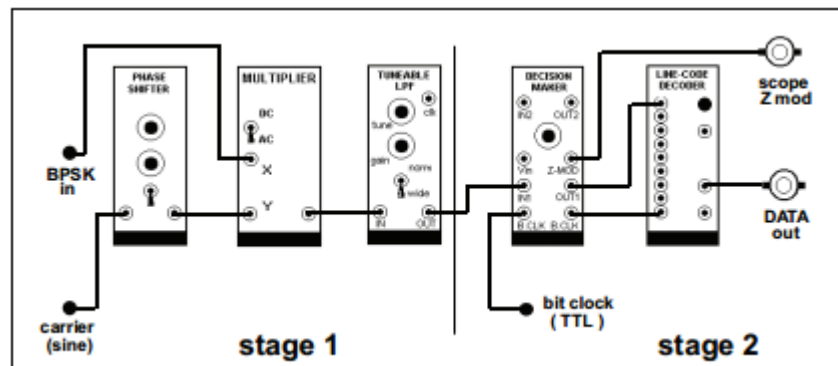

Figure 2
b) **Circuit Assembly:** Make sure that both on-board switches on the SEQUENCE GENERATOR Module are at the Up position. This will generate a 32-bit random sequence which will keep repeating. A new sequence would be generated each time you press RESET. Sequence Generator generates two different sequences marked as X and Y. Connect the SEQUENCE GENERATOR's TTL X output (digital output marked in red on the module), as shown in Figure 2, to the LINE CODE ENCODER's Data In. View the resulting BPSK waveform by connecting NRZ-L output of the Encoder to the oscilloscope. Don't forget to connect the SYNC signal from the Sequence Generator to the oscilloscope's external trigger *. Since this is a repeating sequence, the SYNC will send a pulse at the beginning of every 32-bit sequence to the oscilloscope in order for us to have a steady oscilloscope display. This is your baseband signal. You may not be able to view all 32 bits on the Oscilloscope, but you should be able to view the first 16 bits. Include a screen shot in your report and indicate what the first 16-bits of your sequence are (0s and 1s)?
d) To demodulate the BPSK waveform, we will use synchronous demodulation. Connect the modulated BPSK signal and sinusoidal carrier from the AUDIO OSCILLATOR to the MULTIPLIER inputs as shown in Figure 2. Again, you can skip the phase shifter module connection as it is optional. The output of multiplier then needs to be connected to the TUNEABLE LPF module to get the baseband BPSK. The DECISION MAKER module will be used for coherent data recovery. Set the onboard switch SW1 of the Decision Maker to accept NRZ-L coding (You can rotate the switch until you see NRZ-L). Use the 8KHz clock signal from the AUDIO OSCILLATOR in step (a) to connect to DECISION MAKER Bit Clock input. This instructs the decision maker to take 4 samples within each bit duration. Adjust the bandwidth of the TUNEABLE LPF until you get a signal as close as possible to the original baseband BPSK signal. Now adjust the gain of the filter to get 2V peak to peak signal. Connect the output of the LPF Module to IN-1 of the Decision Maker module. Connect the Z-MOD output of the DECISION MAKER module to the oscilloscope on channel 2 and the modulated signal obtained in step (c) on channel 1. You will see the sampling instants in the form of parallel vertical lines. Rotate the Decision Point knob slowly (clockwise) and observe that these lines